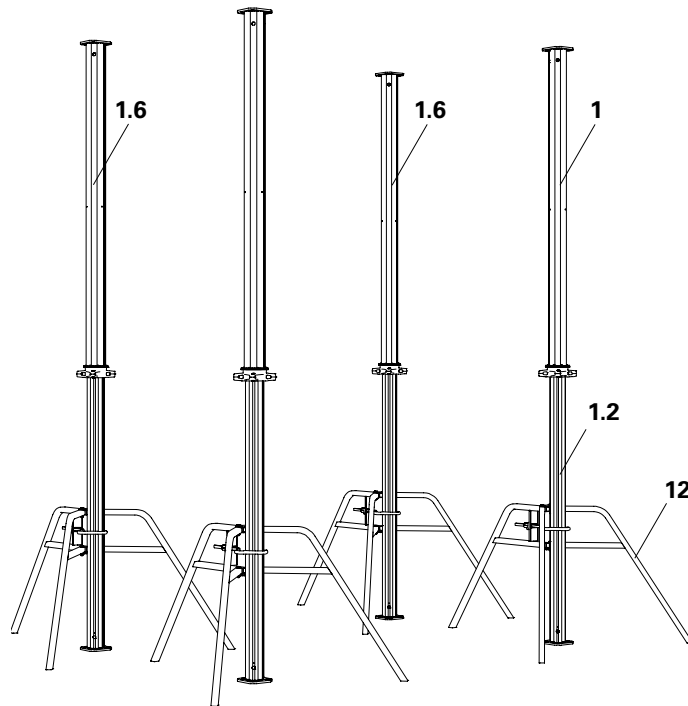
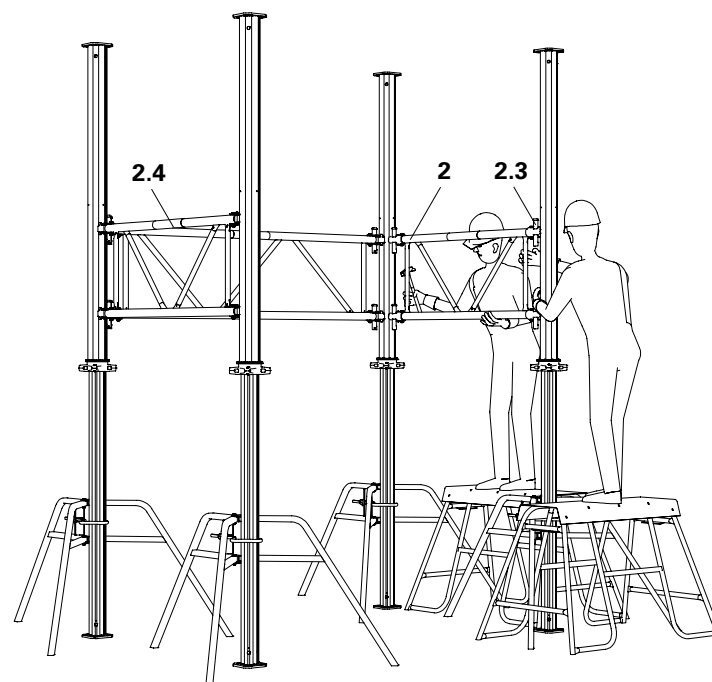

Fig. A4.01
Fig. A4.02
1. Position MULTIPROP Props (1):
- Use the Universal Tripod (12) as an erection aid.
- The measuring tape (1.6) is pointing inwards. (Fig. A4.01)
- Place frame (2) on the designated positions, see plan or type test.
- Securely fix the wedges (2.3) with a hammer blow in a downwards direction. (Fig. A4.02)